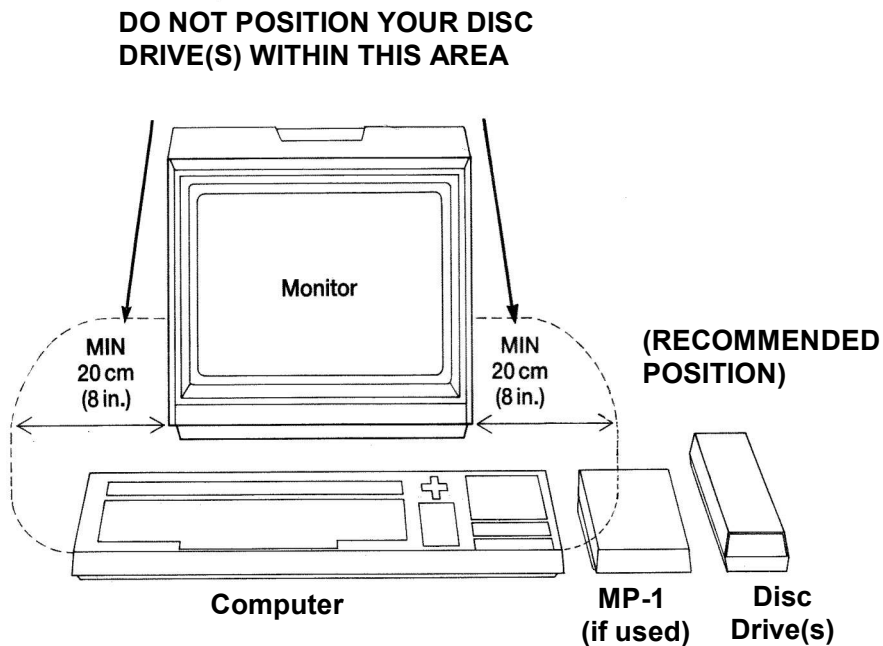

Figure 5
- 1) For maximum data reliability, do not position your disc drive(s) closer than 20cm (8 inches) to the monitor, see Figure 5. It is recommended that you locate your disc drive(s) to the right of the computer (or MP-1 modulator/power supply if used).